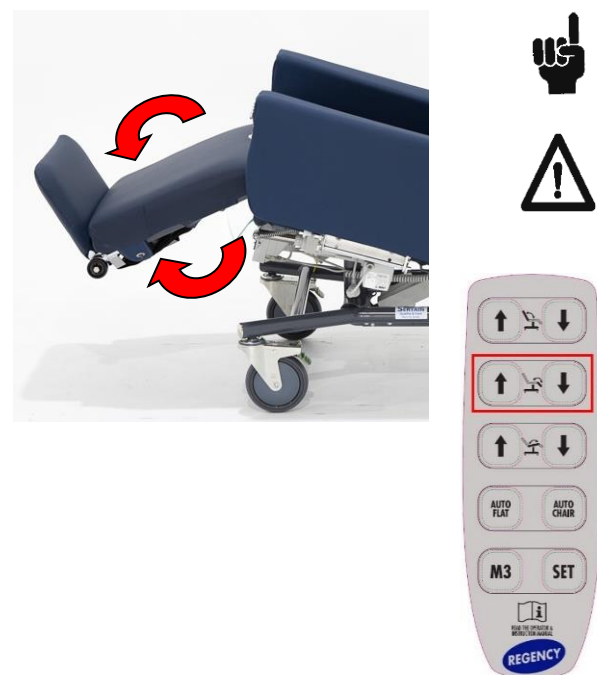

FIG 5
3.5.2 Electric 3 Function Operated Models – See Figure 5, and use the **handset** buttons on the 2nd row to either elevate or lower the leg rest to the desired position.